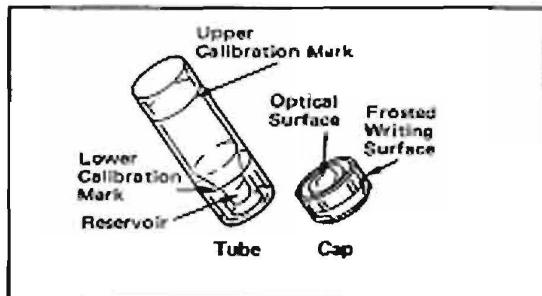

Figure 19. SEDI-CAL Tube and Cap.
1. Filling the SEDI-CAL Tube (Figure 19)